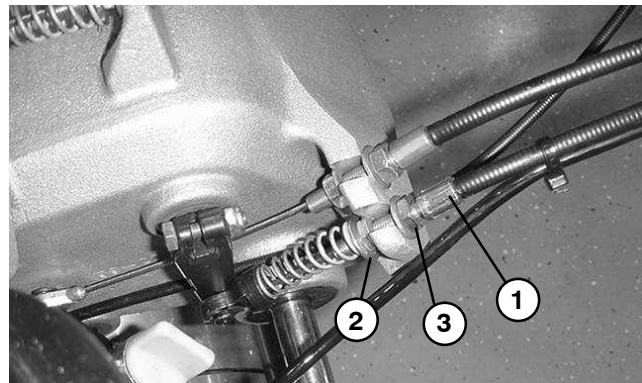

Figure 3
3. To increase cable tension, loosen front cable jam nut and tighten back cable jam nut (Fig. 3) until a force of 12 to 16 lbs (54 to 72 N) is required to engage traction drive. The force should be measured at the control knob.